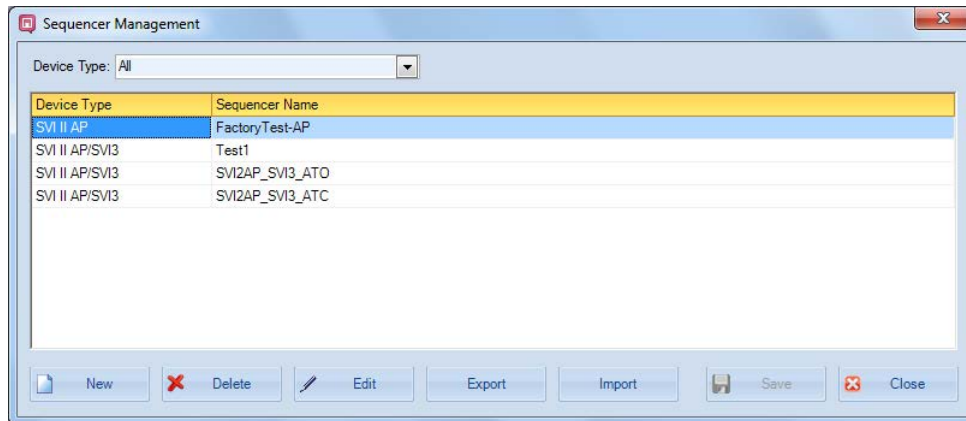

Figure 100 Sequencer Management
1. Select **Tools > Sequencer Settings > Sequencer Management** and Figure 100 appears.